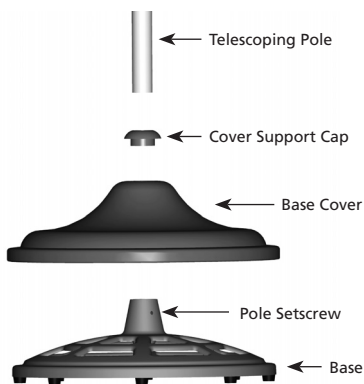

FIGURE 3
1. With the base resting on the floor, place the base cover over the base. See Figure 3.